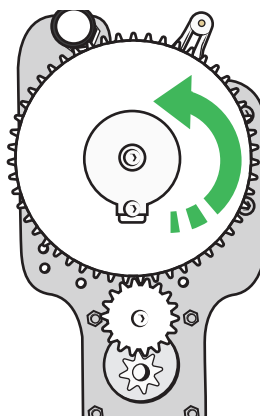

Figure 134
19. Turn the large gear wheel counter-clockwise until it stops against the mechanical stop. See Figure 134.